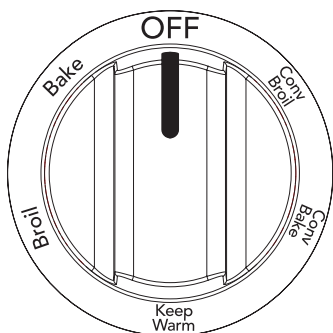

Figure 13 :Oven mode knob
3. Turn the **oven mode** knob to the **bake** position (Figure 13).
1. Arrange the oven rack while oven is still cool. Turn the **oven mode** knob to the broil position (Figure 13).